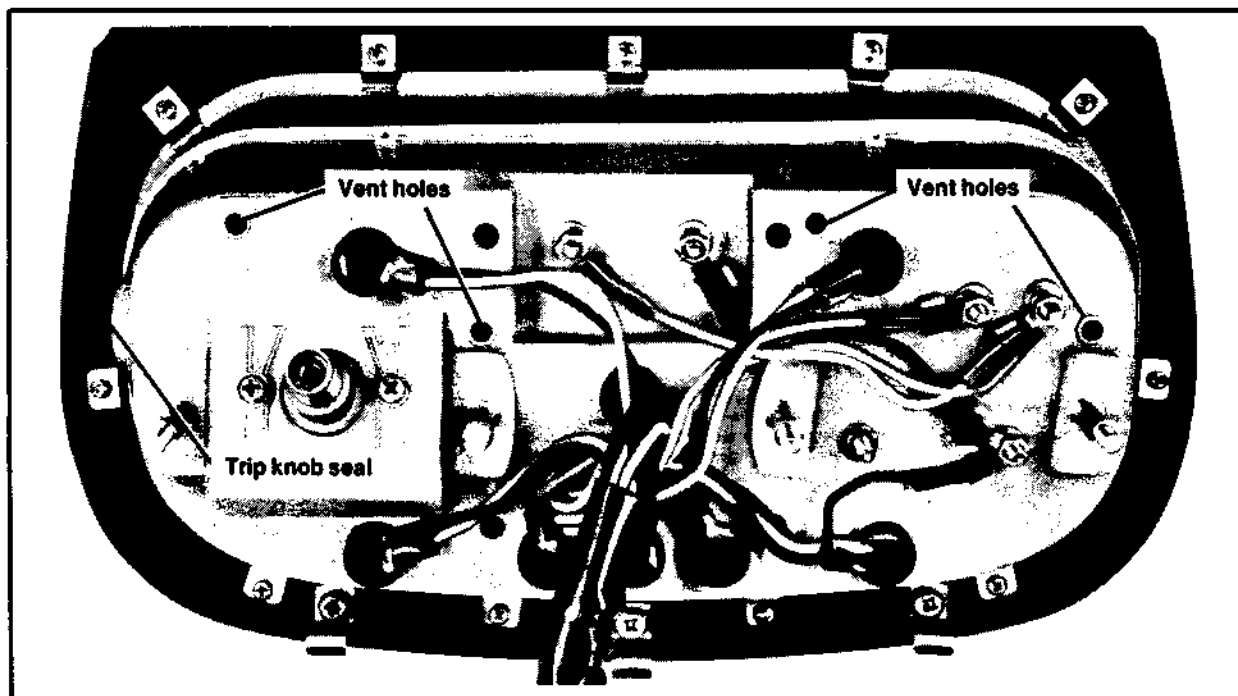

Figure 1. FLT Instrument Panel Housing
2. Apply several drops of silicone sealant to the four vent holes as shown in Figure 1.